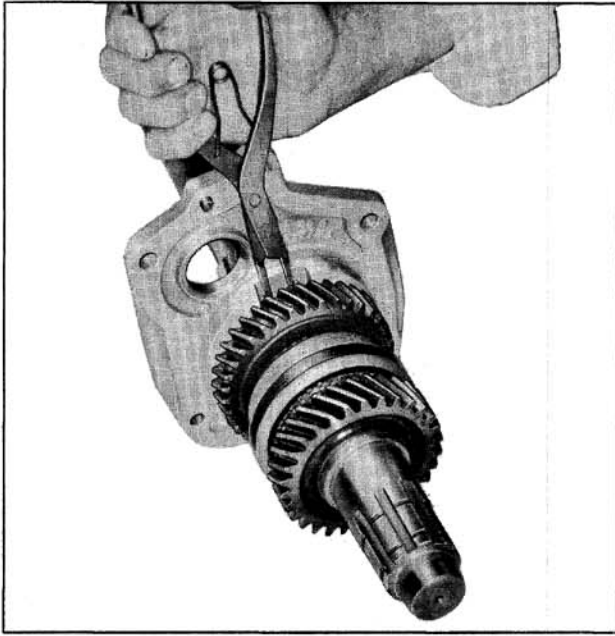

Fig. 7-64 Removing Rear Bearing Retainer
16. Spread rear bearing retainer snap ring and press mainshaft out of the retainer. (Fig. 7-64)